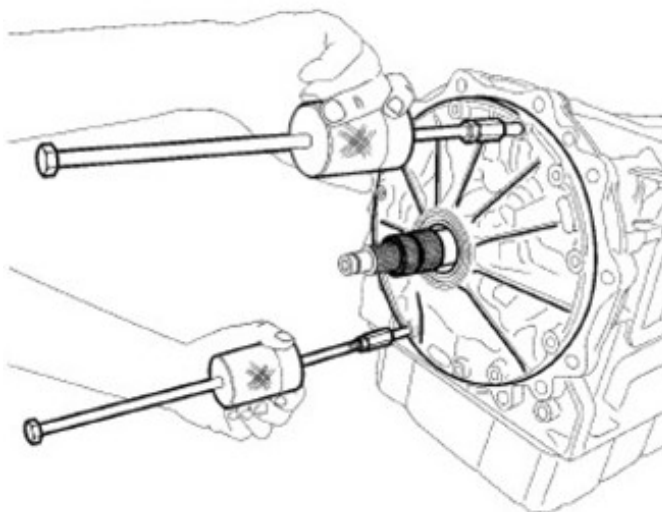

Fig. 5
8. Remove the bolts securing the oil pump to the transmission case and use Slide Hammers C-3752 with Adapters 9981 to remove the oil pump assembly from the transmission spline Fig. 5.